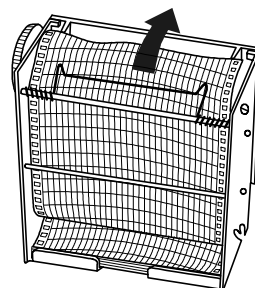

Fig. 3
3. Set a new recording paper in place on the rear bottom of the cartridge. Set the hole on the recording paper in the cog of the recording paper driving assembly and feed the recording paper in the direction of the arrow by driving the cog wheel. (Fig. 3)